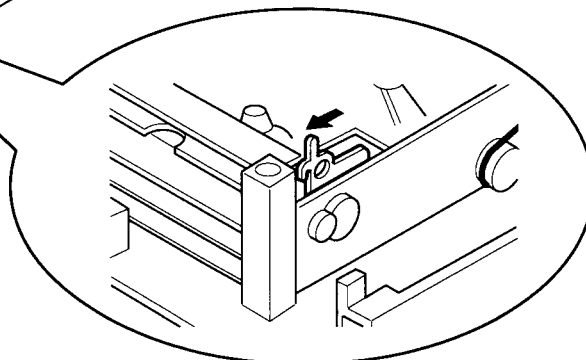

Fig. 3
Turn the loading motor pulley in the direction as indicated by Fig.2. As both (A) and (B) levers are lodged twice, push the levers in the direction as indicated by Fig.3 to release them. When pushing the levers, do it in the order of (A), (B), (B), (A). When the holder has been lowered, turn the pulley until the cassette holder is securely in place without allowing any up/down movement.